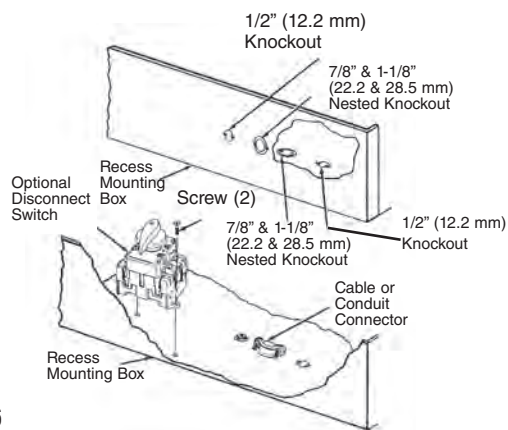

Figure 6
- Remove the Recess Mounting Box (Figure 6) from the carton containing the Recess Mounting Enclosure, Type REA.
- Remove one of the knockouts and install a cable or conduit connector (Figure 6).
- Install the optional disconnect switch (if required) as shown in Figure 6.